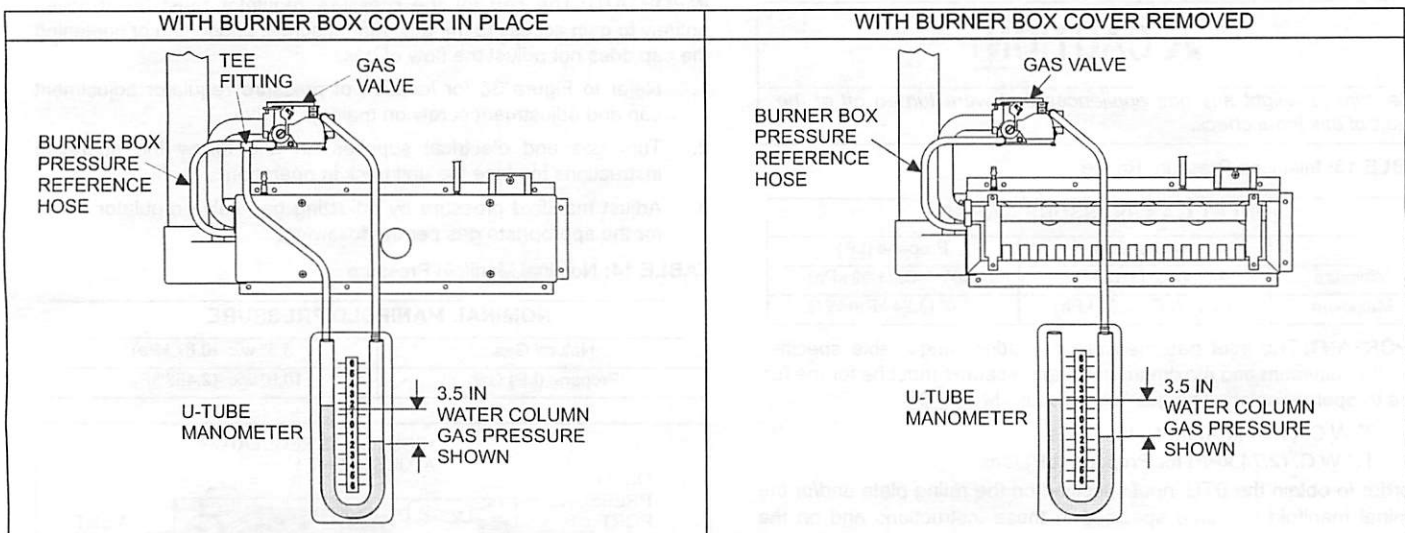

FIGURE 37: Reading Gas Pressure
- E. Use the 5/16" (0.8 cm x 1/8" (0.3 cm) reducing coupling and a 4" (10.2 cm) piece of 1/8" (0.3 cm) tubing to connect the positive side of the manometer to the gas valve pressure reference port. Refer to Figure 37 for connection details.
Reading the gas pressure with the burner box cover removed - Remove the screws securing the burner box front cover plate. Remove the cover. The gasket and may stick in place. Connect the positive side of the manometer to the gas valve as described above. There will be no second connection to the manometer, as it will reference atmospheric pressure. Refer to Figure 37 for connection details.